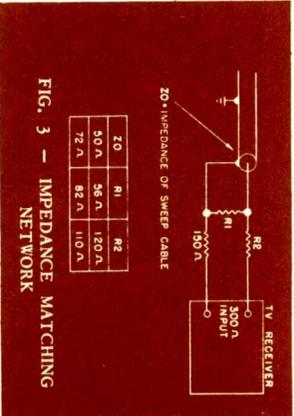

FIG. 3 - IMPEDANCE MATCHING NETWORK
**Centering Magnet (Figure 3):**
28. Adjust the sweep generator to channel 13 (210 to 216 mc.), and connect its output cable to the receiver antenna terminals through the impedance matching network shown in Fig. 3. Keep the leads as short as possible.